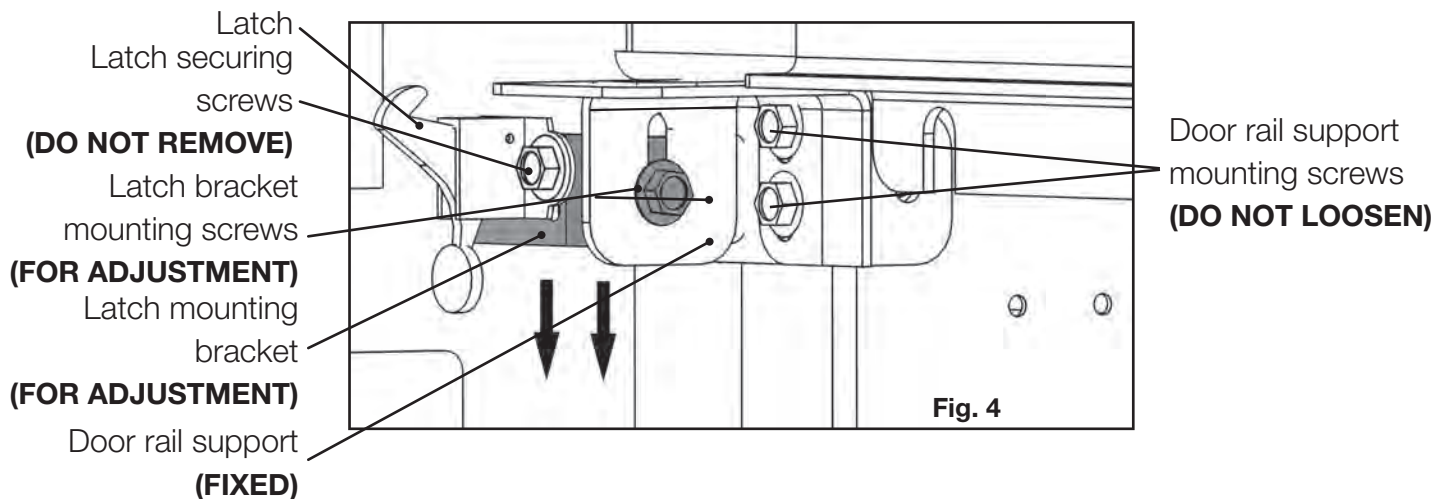

Fig. 4
4. For ease of fitting, the latch securing screws should be located at the bottom of their slots. it may be necessary to loosen the latch securing screws and slide them all the way down. Retighten the latch securing screws loosely taking care not to overtighten **(Fig. 4)**. Repeat for other end of GGA-1.